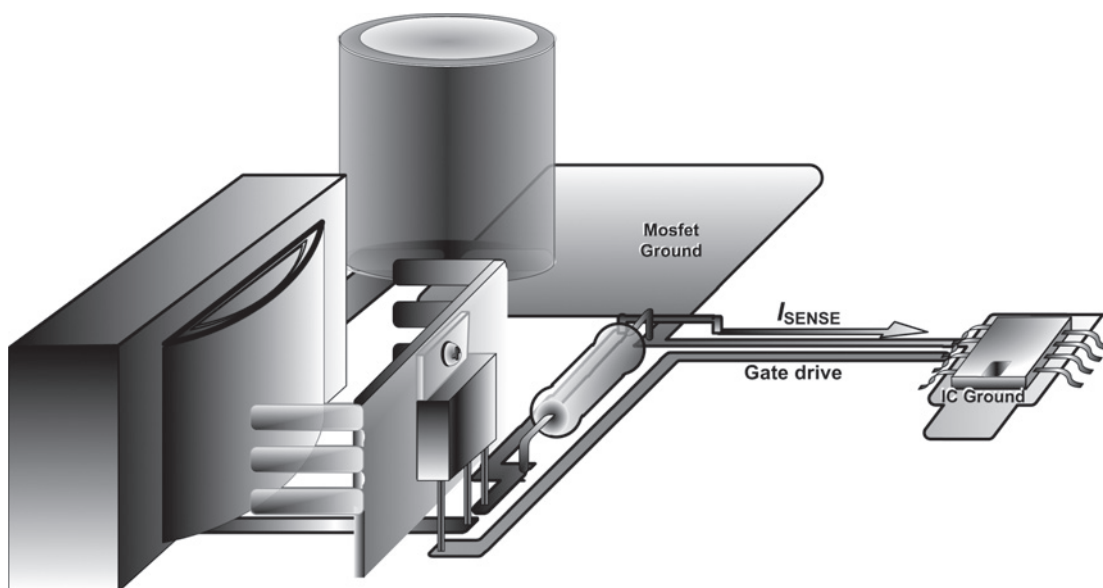

Figure 7-1 A Recommended Routing Scheme for the Popular 384x Family
So as in Figure 7-1, we should first create a small (local) ground island next to the IC. All the circuitry around the controller is referenced to this ground. For example, the timing capacitor, the IC input supply capacitor, the I_{SENSE} filter capacitor, and so on, are all connected here.
1. The I_{SENSE} signal picked up from the sense resistor. Note that this is a sensitive trace and under no condition should you run it alongside the Gate drive trace, as it will pick up noise and produce a fairly staggering amount of jitter. That is why in Figure 7-1, it has been jumpered and made to run alongside the much quieter ground trace.